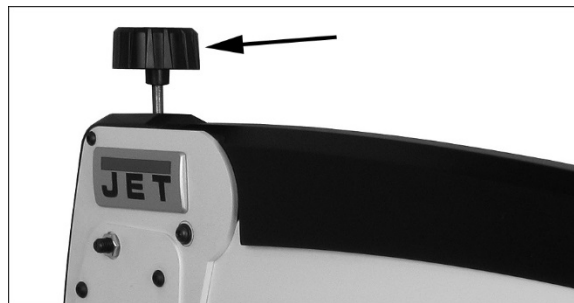

Figure 18: arm adjustment knob
- Rotate arm adjustment knob (Figure 18) clockwise by hand. This will raise arm and apply more tension to blade.